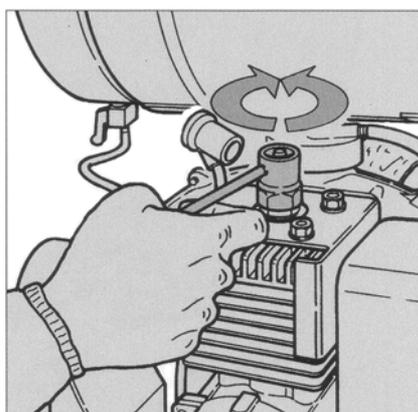
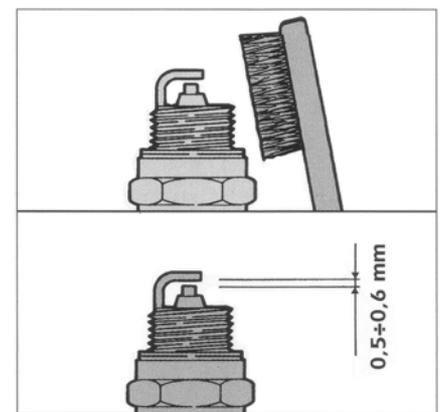

FIG. 12
FIG. 13
- 3) Remove the spark plug (Fig. 12).
- 6) Clean the spark plug (Fig. 13) and replace it (Fig. 12), then repeat the normal starting procedure.
- Every 40 working hours clean the carburetor and the spark plug, checking that the distance between the electrodes is between 0.5-0.6 mm (Fig. 13).